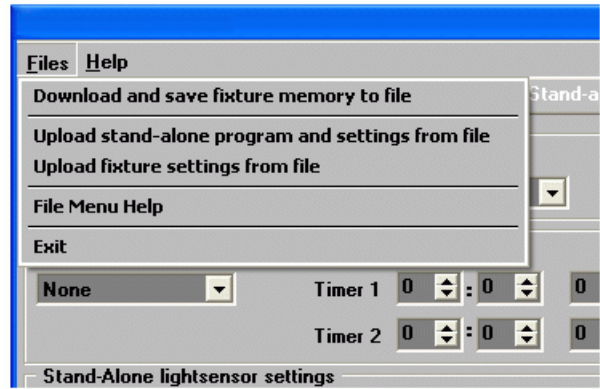

Figure 16: Managing fixture settings and stand-alone programs as files
2. Download and save this fixture's memory (program and settings) to your PC using MUM's Files menu (see Figure 16), and then